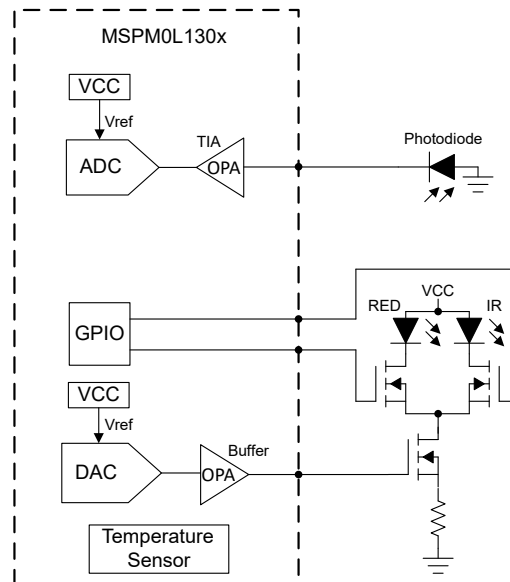

Figure 2-2. TIDA-010267 Pulse Oximeter Analog-Front End
Figure 2-2 illustrates the analog blocks in use on the MSPM0L1306 and how the blocks interact with the LED and photodiode parts.
The AFE Block Diagram (Figure 2-2), shows that the power of each LED is managed by the MOSFET and controlled via the GPIO pins of the MSPM0L1306. These two MOSFETS control the on and off states of the LEDs respectively. TIDA-010267 uses single-part LEDs with wavelengths of 660 nm (red) and 940 nm (IR). LED brightness control is achievable thanks to the internal 8-bit DAC of the MSPM0L1306 and OPA voltage follower outputting to a common MOSFET that determines the current flow through the LEDs. Because the voltage of the battery can be monitored periodically with an internal ADC connection and internal voltage reference, it is possible to reliably attenuate the voltage output of the DAC to a known level and pinpoint the desired current flow through the LEDs.